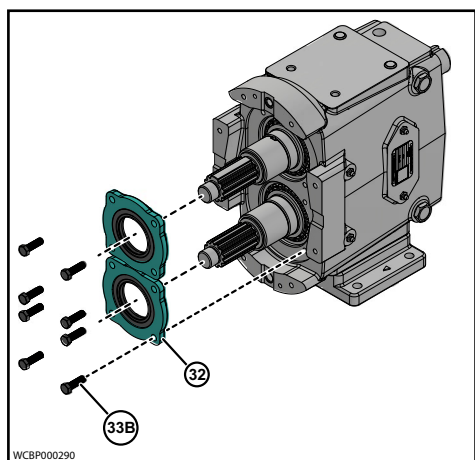
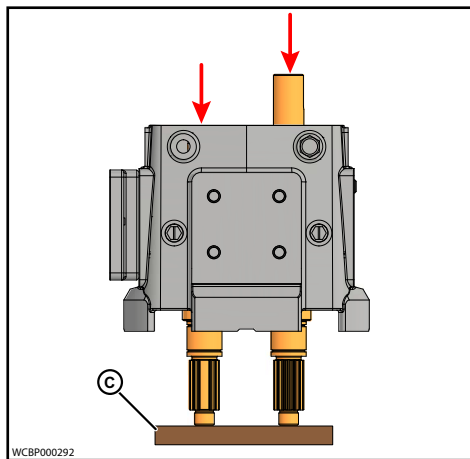

Figure 71 - Remove Bearing Retainers
Figure 73 - Press Shafts from Gear Case
NOTE: Protect the liquid end of the shafts by wrapping them with tape. See Figure 71 and Figure 73.
3. Remove the front bearing retainer screws (33B) and pull off the bearing retainers (32) (Figure 71). If a retainer is stuck, leave it in place; it will press out when the shaft is removed.
5. Place the gear case on an arbor press with the liquid end facing down. Protect the shaft ends with a wood or plastic block (C) (Figure 73) and press the shafts out of the gear case. See Table 11, "Arbor or Hydraulic Press Required (Tons)," on page 65.